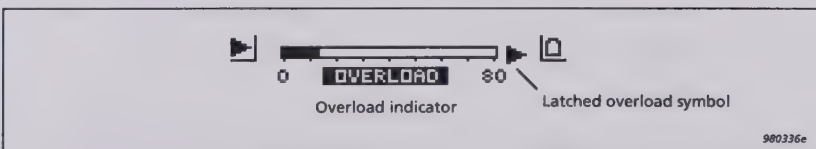

*Fig.2.5 Overload indicators*
- b. *The upper end of the measurement range (in dB) and overload indicator:* Peaks above this level will trigger an “OVERLOAD” indication that will appear under the bar graph, see Fig. 2.5. If an overload has occurred in the last one second, this indication will stay for the next second. This indication will appear both in pause mode and in measurement mode. If an overload occurs during a measurement in progress, a “latched overload” symbol will appear to the right of the bar graph, see Fig. 2.5. The latched overload remains until the measurement is reset, also if the measurement is paused. To change the measurement range, press .